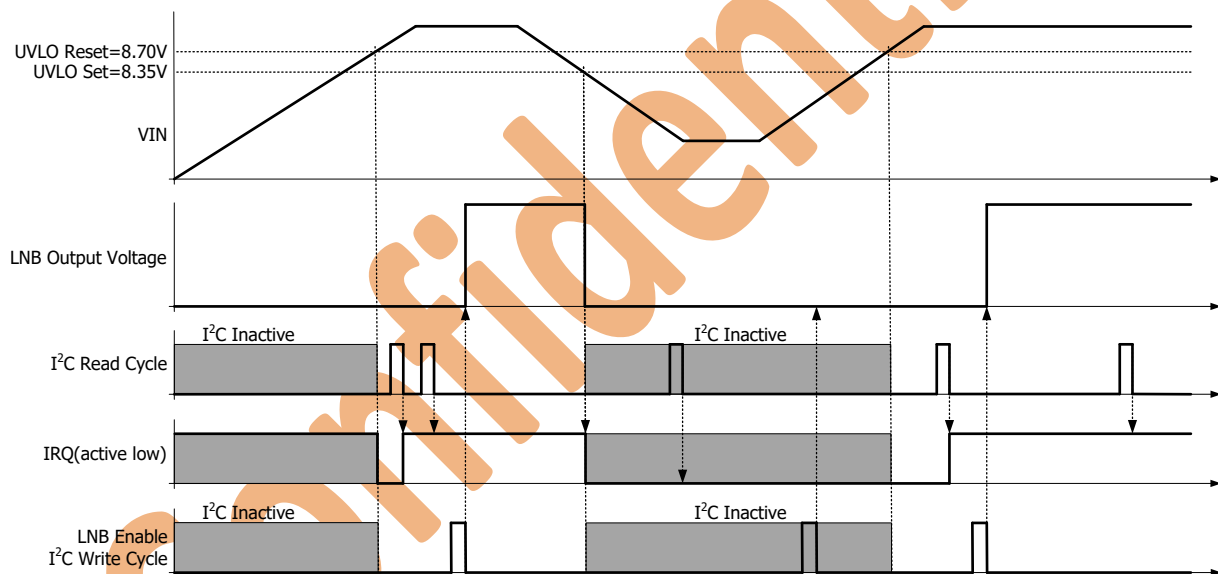

Figure 6. IRQ and Fault Sequence for I2C address set to address2, address3 and address4
- The first method uses the I2C address setting (Address2, Address3 or Address4). In this method while  $V_{IN}$  is below 8.70 V (typ), the WT20-1809 is disabled and the I2C port is inactive. After  $V_{IN}$  rises above 8.70 V (typ), the I2C port becomes active and the IRQ pin is pulled low. An I2C Read cycle is required to report and clear the UVLO fault and set the IRQ pin to a logic high before the WT20-1809 can be enabled. If brown-out occurs, such that  $V_{IN}$  drops below 8.35 V (typ), the WT20-1809 will be disabled and the I2C port will become inactive (note that the IRQ pin will remain high during this time because the WT20-1809 is disabled). After  $V_{IN}$  rises above 8.70 V (typ) the I2C port reactivates and the IRQ pin is pulled low to report that a brown-out had occurred. An I2C Read cycle is required to report and clear the UVLO fault before the WT20-1809 can be re-enabled. A detailed timing diagram is shown in Figure 6.